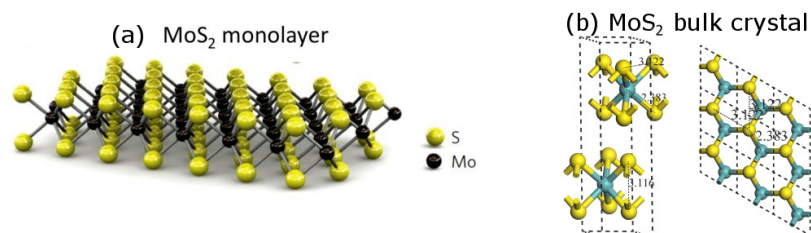

Figure 2: (a) Structure of MoS_2 monolayer; (b) Structure of MoS_2 bulk crystal.
- 2a. Using the QE GUI, plot the band structure and density of states for a monolayer of MoS_2 , as depicted in Fig. 2(a). Please provide the resulting input files to pw.x for SCF calculations, as generated by the tool.
- 2b. Plot the band structure and density of states for bulk MoS_2 , as depicted in Fig. 2(b). **Hint:** the bulk crystal has 6 atoms in the unit cell, and the Mo and S atoms are swapped in their lateral positions between adjacent layers. Please provide the resulting input files to pw.x for SCF calculations, as generated by the tool.